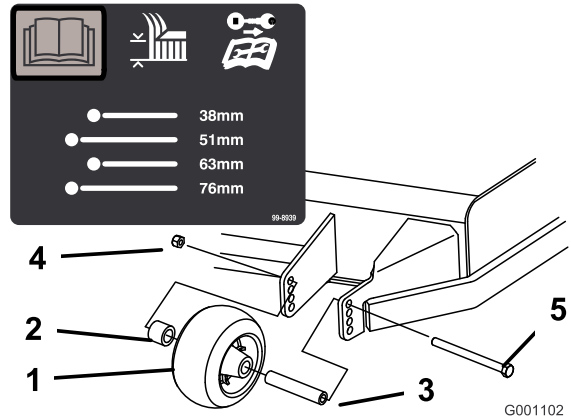
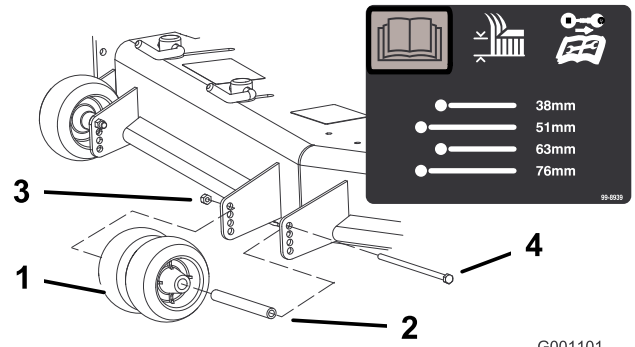
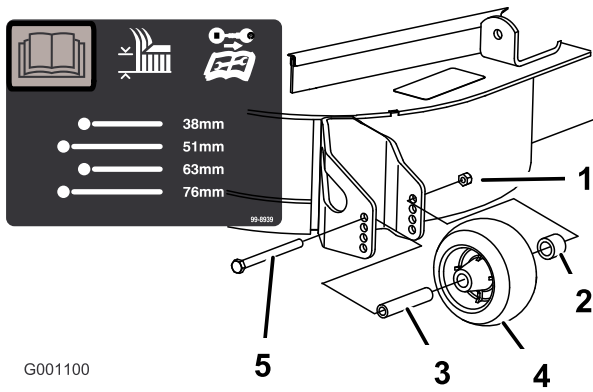

Figure 20
Figure 21
Figure 22
3. After adjusting the height-of-cut, adjust the rollers by removing the flange nut, bushing, spacer, and bolt (Figure 20, Figure 21, and Figure 22).
Note: The two middle rollers will not have a spacer (Figure 21).
5. Install the flange nut, bushing, spacer, and bolt. Torque to 54-61 N-m (40-45 ft-lb) (Figure 20, Figure 21, and Figure 22).